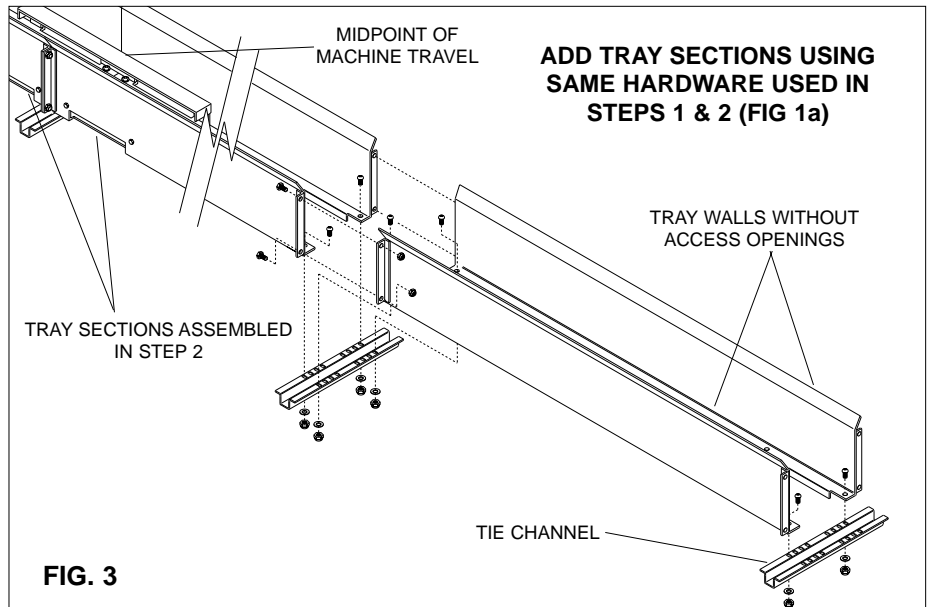

FIG. 3
STEP 4: Attach additional tray walls (without cable/hose access slots) and tie channels to each end of assembled tray sections (Fig 3). Typically, the quantity of tray sections extending from the access trays is equal in both directions. Short tray sections, if any, go at extreme ends. As with other joints, **DO NOT** fully tighten screws at this time.